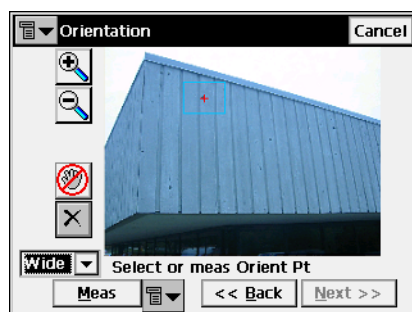

Figure 6-45. Select Orientation Point – Wide View
- The drop-down list in the bottom left corner of the screen contains two options to view the image (Figure 6-45):
- **Next:** when four or more orientation points have been established click this button on the **Orientation** screen to display the orientation results (Figure 6-45).